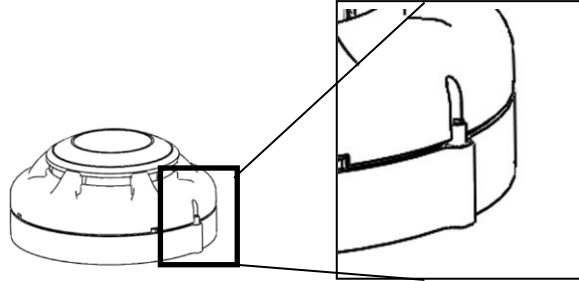

Figure 11: Position of the locking screw to lock the detector
3. Install the detector into the mounting base, making sure the wiring does not obstruct mounting of the detector head. Push the detector into the mounting base while turning it clockwise until the detector locks into place. Use a small hexagonal wrench to set the tamper resist feature (if required), see Figure 11.
The EVA-UB series, EVA-S6 Base, and EVA-STB series of smoke/heat detector mounting bases have a tamper-resist feature that works in conjunction with the detectors. When this feature is enabled, the detectors cannot be removed from the base without the use of a small hexagonal wrench. To avoid unauthorized removal of the detector, turn the locking screw in the mounting base counterclockwise until the screw extends out about 4 mm (3/16 in.) from the rim of the base, as shown in the Figure 11.